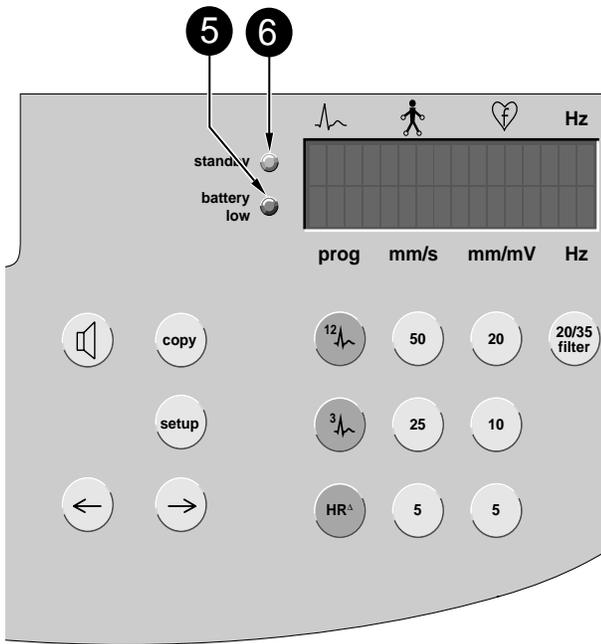

Figure 3-1. Indicators
- The battery is automatically charged when the device is connected to the power line (indicator **6** (Figure 3-1) is lit when the battery is charging). It is not necessary to turn the device on for charging. In order to have the battery fully charged at all times, leave the MAC[®] 500 connected to the power line. A depleted battery needs 6 hours to recharge.